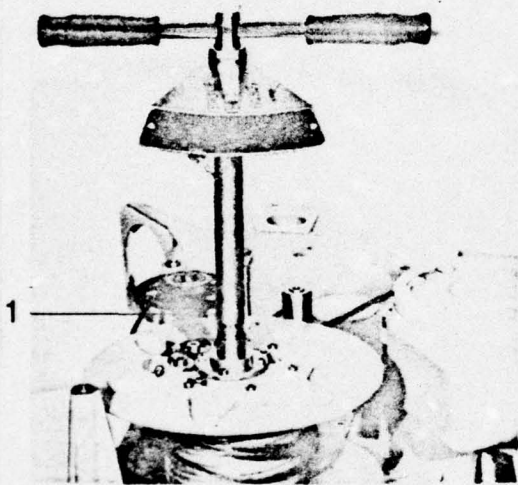

Figure 3.13
Guide spindle (1, Figure 3.13) may not be turned during these works since otherwise the limit switch becomes maladjusted.
37. Torque wrench (measuring range 0-150 cmkp) with socket  $s = 14$  mm to be attached and the torque read off during a half-turn in a clockwise direction (Figure 3.13).